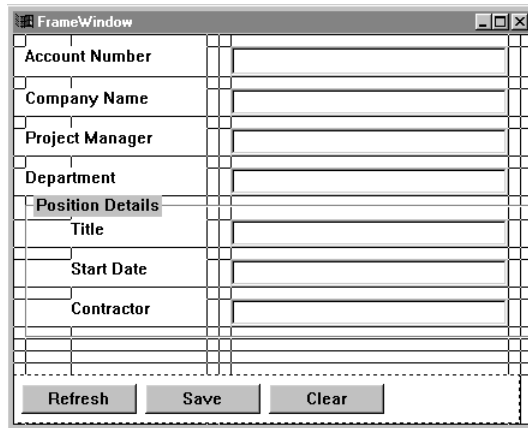

Figure 102. Multicell Canvas Showing Dragged IGroupBox* Part
4. Select the IGroupBox* part. Holding the Alt key with one hand, drag the lower-right part handle to cell (18,8) as shown in Figure 102 on page 227.